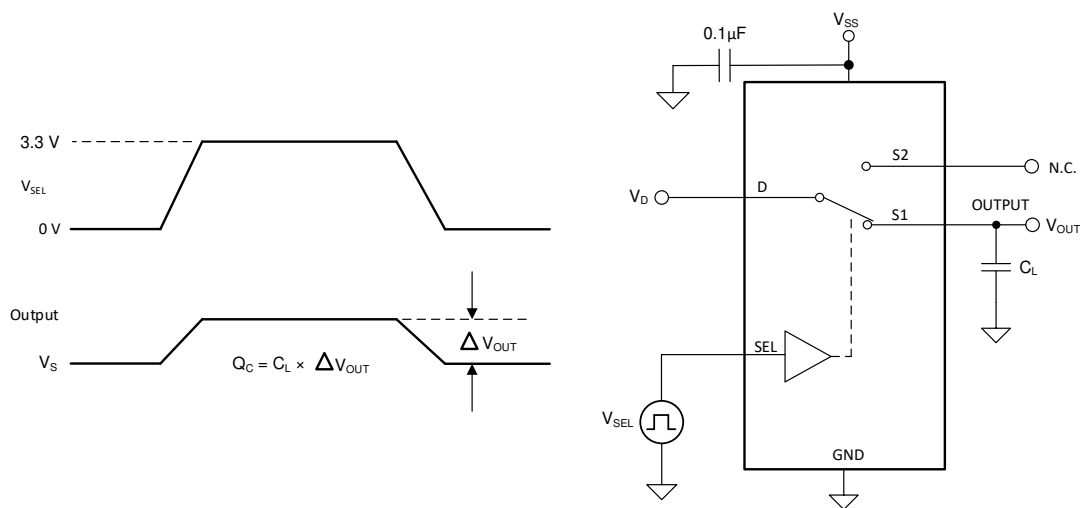

Figure 7-8. Charge-Injection Measurement Setup
The TMUX4157N has a transmission-gate topology. Any mismatch in capacitance between the NMOS and PMOS transistors results in a charge injected into the drain or source during the falling or rising edge of the gate signal. The amount of charge injected into the source or drain of the device is known as charge injection, and is denoted by the symbol Q_C . Figure 7-8 shows the setup used to measure charge injection from Drain (D) to Source (Sx).